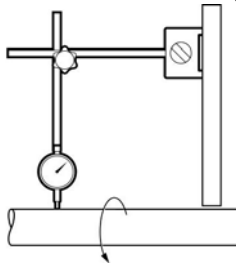

Figure 2
- 3.1.1 Concentricity of the Shaft:** With the dial indicator mounted to a solid part of the machine, place the indicator tip on the shaft and rotate the shaft. The Total Indicated Reading should have a maximum value shown in **Table 10 value = B**. See **Figure 2** below.